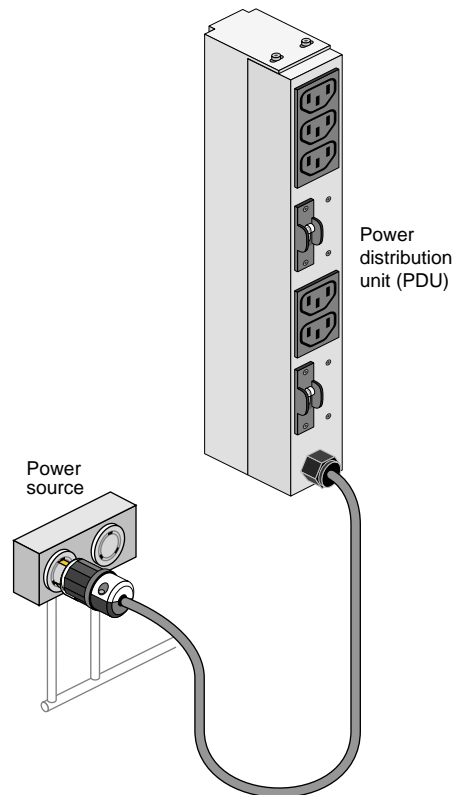
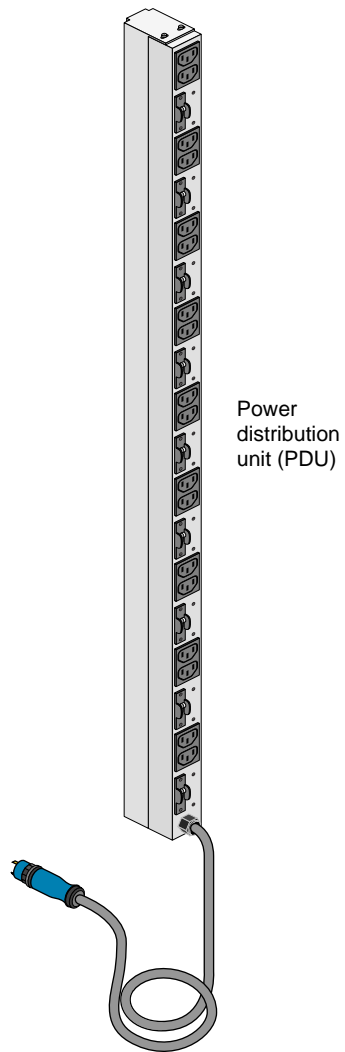

Figure 1-4 Single-Phase Rack PDU Circuit Breaker Switches
Figure 1-5 Three-Phase PDU Example
4. Make sure that all PDU circuit breaker switches (see the examples in Figure 1-4 and Figure 1-5) are turned on to provide power when the system is booted up.
Figure 1-5 shows an example of the three-phase PDU.